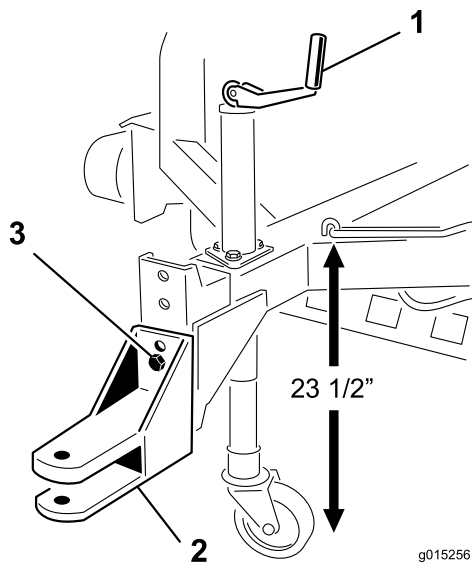

Figure 3
3. Adjust the sweeper jack so that the distance from the top of the frame to the ground is approximately 23-1/2 inches (59.69 cm) (Figure 3).